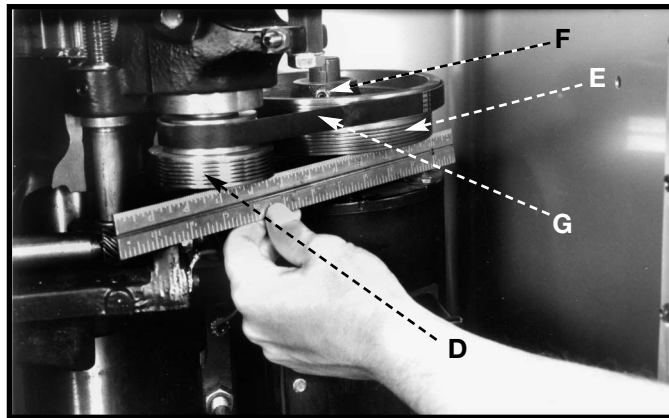

Fig. 41
2. Always align the spindle pulley (D) Fig. 41, and motor pulley (E) to provide maximum belt performance and to reduce belt wear. To check the pulley alignment, place a straight edge against the underside of both pulleys (Fig. 41). If an adjustment is necessary, loosen the set screw (F) and move the motor pulley up or down until the two pulleys (D) and (E) are aligned. Tighten the set screw.
3. Using light finger pressure on the belt between pulleys (D) and (E) Fig. 41, a deflection of approximately 3/32" will constitute proper belt tension.